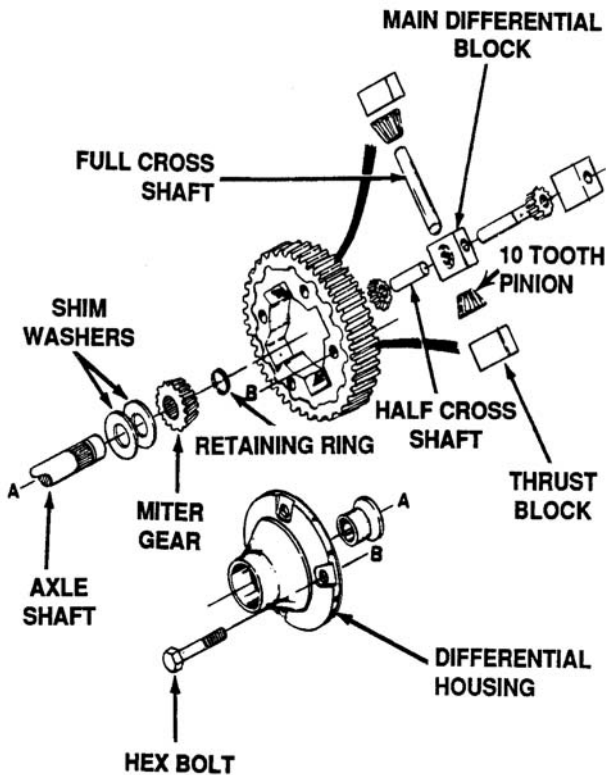

Figure 5-50. Location of Hex Bolts
- Remove the four hex bolts and lock nuts holding the differential assembly together. See Figure 5-50.